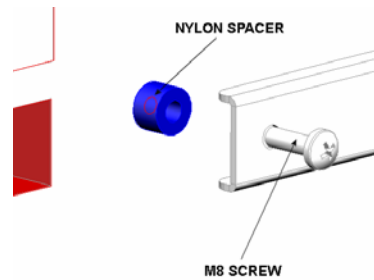
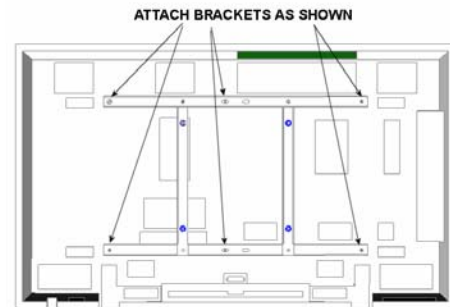

Figure 5
Figure 6
3. Place 6 Nylon spacers over the mounting holes on the back of the screen and attach the brackets using the appropriate M8 screws for your screen (see Figure 5 & Figure 6). After the brackets are tightened in place, fully tighten the 5/16-18 x 1/2" BHCS's to the uprights.